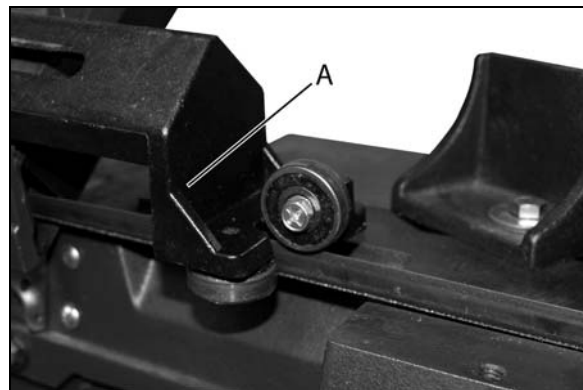

Figure 5
2. The blade support bearing (A) (see Fig.5) should be adjusted so it just touches the back of the saw blade after the blade is tracking properly.
2. Blade guide bearings (A) and (B) (see Fig.5) should be adjusted until they touch the sides of the blade (C) after the blade is tracking properly and the blade support bearing is adjusted.